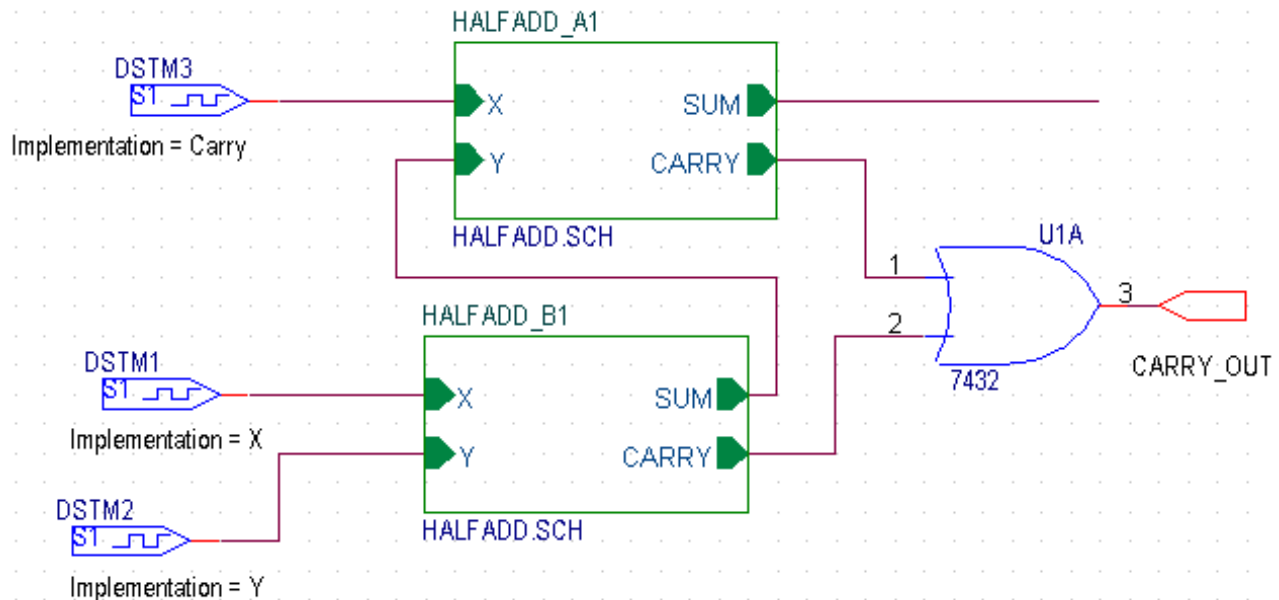

Figure 2-2 The full adder circuit
- 16 Using the Place Part dialog box, add an OR gate (7432) to the schematic. (See Figure 2-2 on page 27.)
- 24** Specify the value of the Implementation property as Carry, X, and Y, respectively. See Figure 2-2 on page 27.
- 25** Select the Place Port  button, to add an output port, CARRY_OUT, to the output of the OR gate. (See Figure 2-2 on page 27.)
- 28 Place the output port as shown in the Figure 2-2 on page 27.